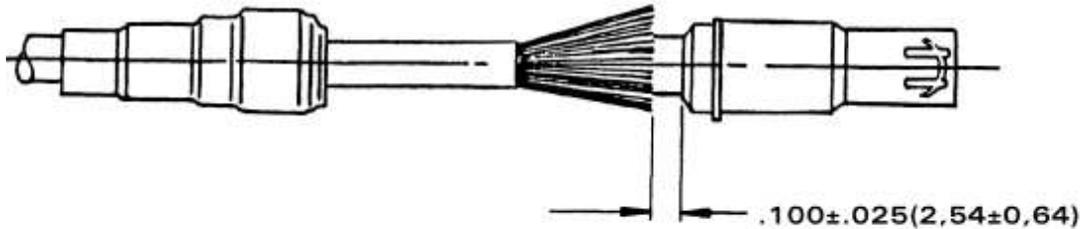

FIGURE 12
- 5.3.2.2 Brush cable braid forward over rear barrel section of triaxial contact. Trim braid strands to yield spacing shown in Figure 12.